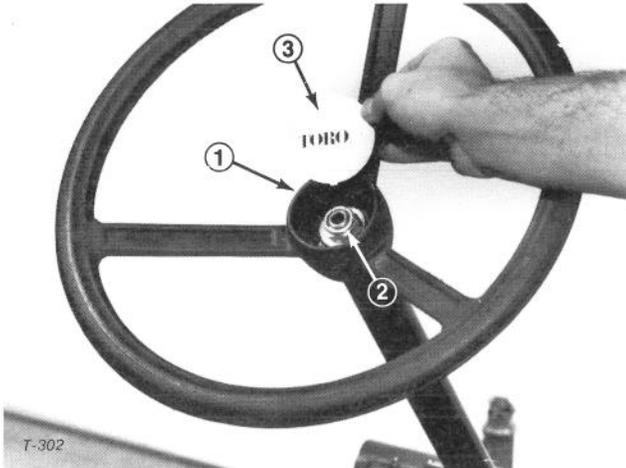

Figure 4
cutout in hub, which accommodates the tab on steering cap, points toward the seat (Fig. 4).
3. Secure steering wheel in place with jam nut (Fig. 4) and tighten it to 70 ft-lb (95 N·m).
4. Insert tab of steering cap into cutout in steering wheel hub (Fig. 4). Press cap into groove in hub.